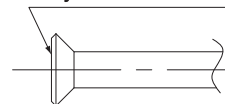

Fig. 3
- When making a flare connection, coat the flared inner surface only with ether oil or ester oil. (Refer to **Fig. 3**) Then, turn the flare nut 3 to 4 times with your hand and screw in the nut.